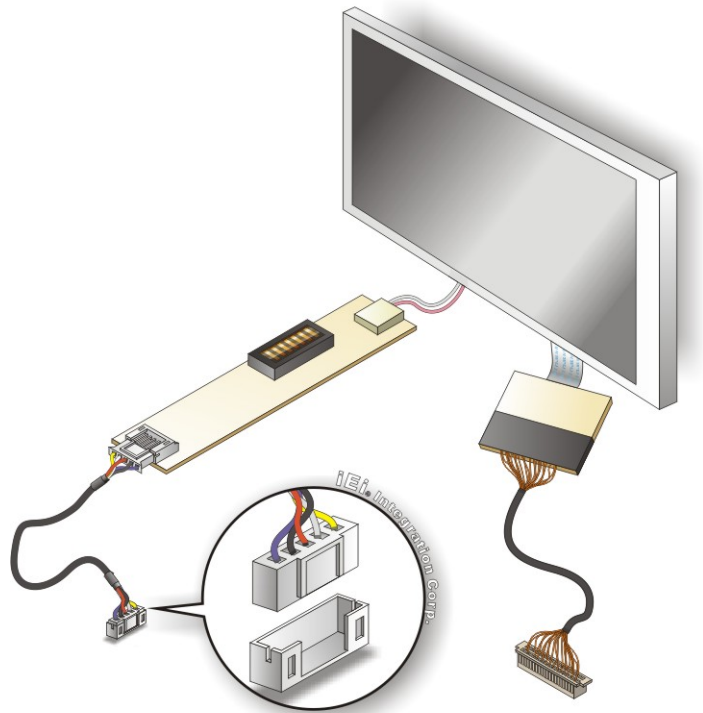

Figure 4-10: Backlight Inverter Connection
Step 4: **Connect backlight connector.** Connect the backlight connector to the driver TFT LCD PCB as shown in **Figure 4-10**. When inserting the cable connector, make sure the pins are properly aligned.